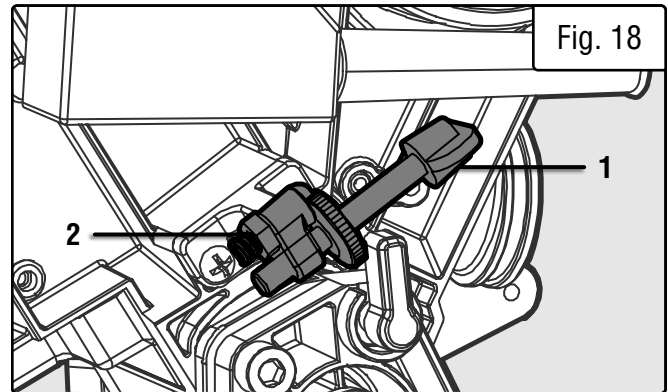

Fig. 18
2. Locate the depth stop settings on the right side of the saw (Fig. 18).
4. Loosen the depth stop knob (Fig. 18 - 1). To increase depth, turn the depth stop knob counterclockwise. To decrease depth, turn the depth stop knob clockwise. Tighten the nut on the depth stop knob once the desired depth is reached.
⚠ WARNING: DO NOT adjust the depth stop screw (Fig. 18 - 2). Only adjust the depth stop knob. The depth stop screw is used to prevent the blade from cutting the table during normal cutting. DO NOT adjust the depth stop screw.